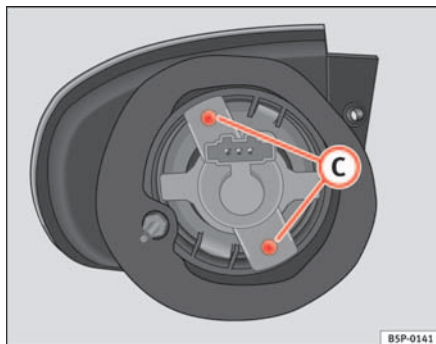

Fig. 183 Indicator lights
- Unscrew the bolts ⇒ page 246, fig. 183 **C** from the lamp holder and pull on this.
- Unscrew the bolts ⇒ fig. 183 **C** from the lamp holder and pull on this.